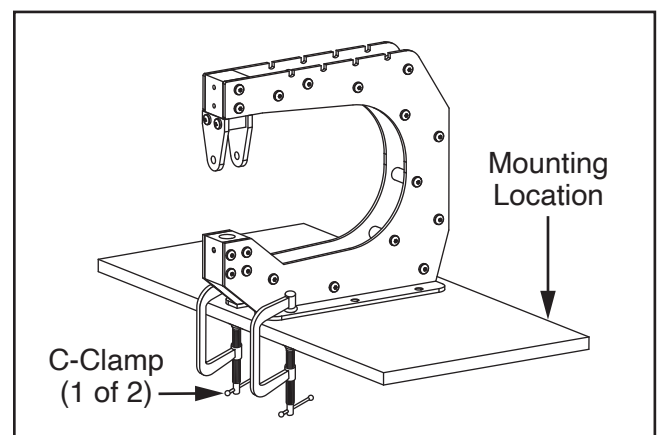

Figure 6. Machine secured to mounting location.
1. Place machine frame on mounting location and secure with (2) C-clamps (see **Figure 6**).